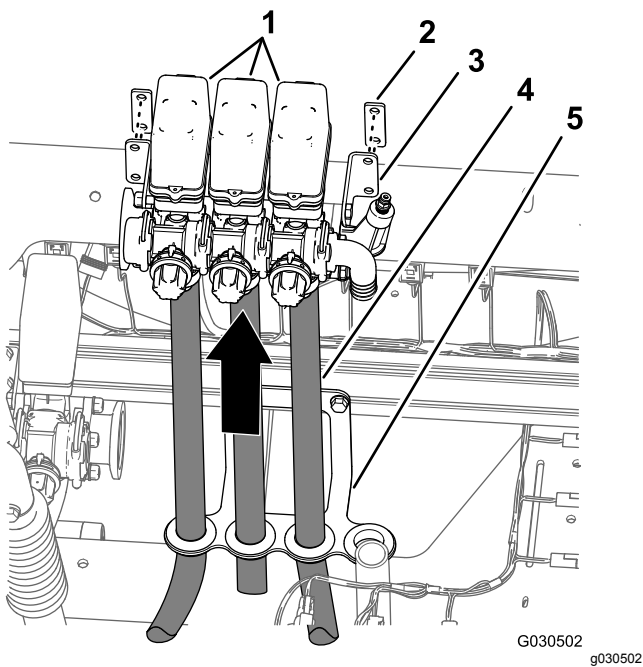

Figure 65
8. With the 3 boom hose attached to the 3 boom-section valves, carefully lift the valves from the hose loom and remove the valves and hoses from the machine (Figure 65).